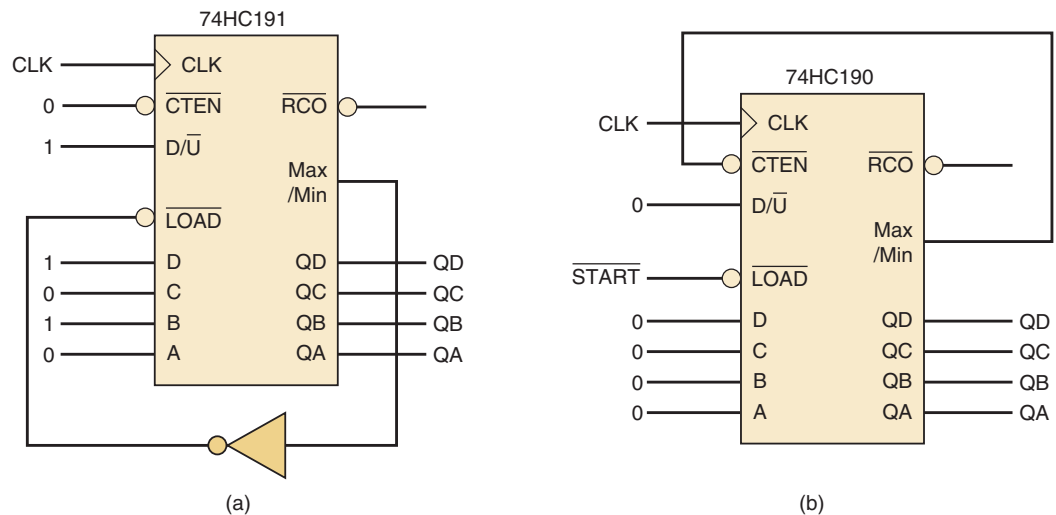

FIGURE 7-107 Problems 7-23 and 7-24.
- B** 7-23* Refer to the IC counter circuit in Figure 7-107(a).
- 7-24. Refer to the IC counter circuit in Figure 7-107(b):